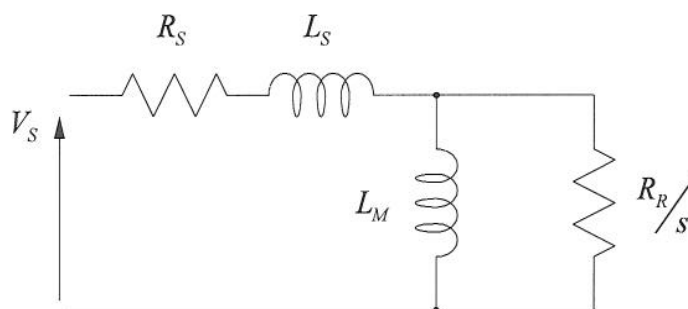

Figure Q6.1 Per-phase equivalent circuit of an induction machine (with negligible rotor leakage inductance)
- (b) For the induction machine model in Figure Q6.1, show that the torque equation $T = 3P\Psi I_R \sin(\delta)$, where P is the number of pole-pairs and Ψ is the magnitude of the air-gap flux-linkage, becomes Eqn 6.1. [5]
(c) The induction machine shown in Figure Q6.1 has the following data: